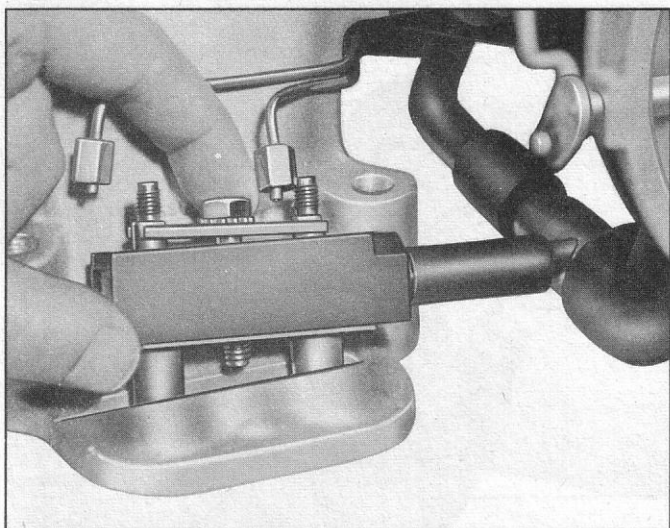

Fig. 60—Removing Nozzle Block Assembly
2. Remove nozzle block retaining screw, remove nozzles and nozzle block as an assembly (fig. 60).